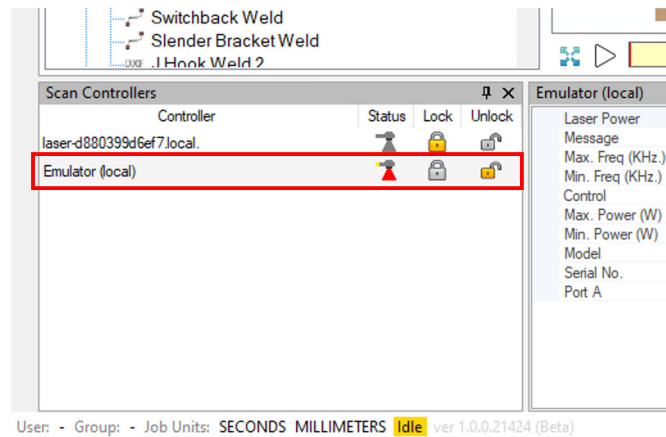

Figure 337: Connection with the Emulator
- At this point, it is best to be connected to the emulator. See Figure 337 on page 307. This will help to ensure that the scanner's processing volume (field of view) is appropriately sized based on the configuration of the emulator.